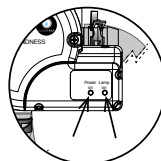

Figure 7
19. Once power is activated you can check the ballast, Figure 7, to see if the CLEARRAY System is functioning. The power on (red) light indicates that the CLEARRAY System is being provided power and should always be on. The lamp on (green) light indicates that UV bulb is activated.